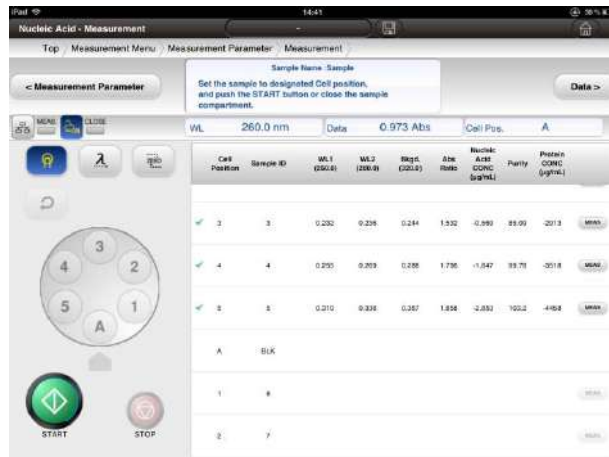

Fig. 4-61 Example of the Window After Measurement of the First Round of Samples
- (4) When 6 or a larger number is set for "number of samples," the measurement results of Sample 1 to 5 will be shown as in Fig. 4-61. Set the following sample according to the guidance. When the sample has been placed, press  [start button] icon. This will then begin measurement.